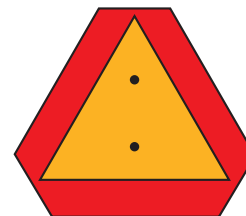

Figure 3-3: SMV Sign
11. Transport during daylight hours whenever possible. Always use flashing warning lights, except where such use is prohibited by law. Make sure lights, reflectors and SMV emblem are clearly visible and operating. Remove any obstructions such as dirt, mud, stalks or residue that restricts view before transporting. **See Figure 3-3.**